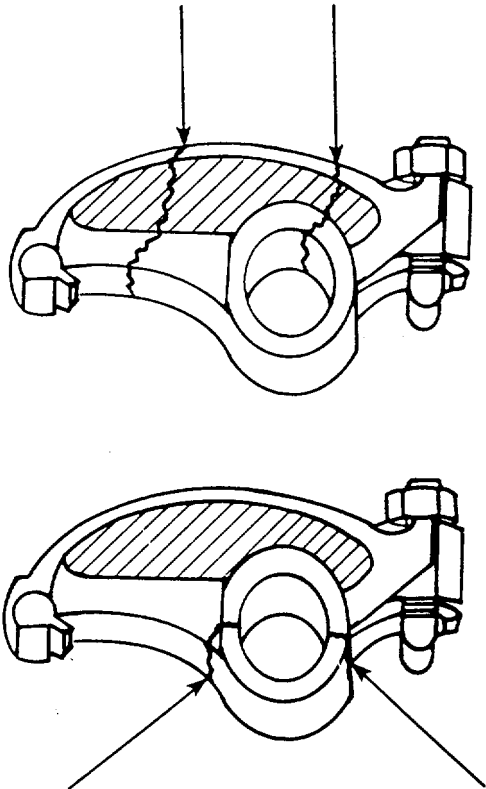

FIGURE 2-31. Crack Inspection Areas on Rocker Levers.
- c. Clean the rocker levers [engine poppet valve rocker arms (13), exhaust levers (9) and injector levers (11)] with solvent and inspect as follows:
- (1) Use compressed air to clean out oil holes. Ensure holes are not blocked.
- (2) Visually check the rocker levers for cracks. Special attention should be given to the areas indicated in FIG. 2-31.